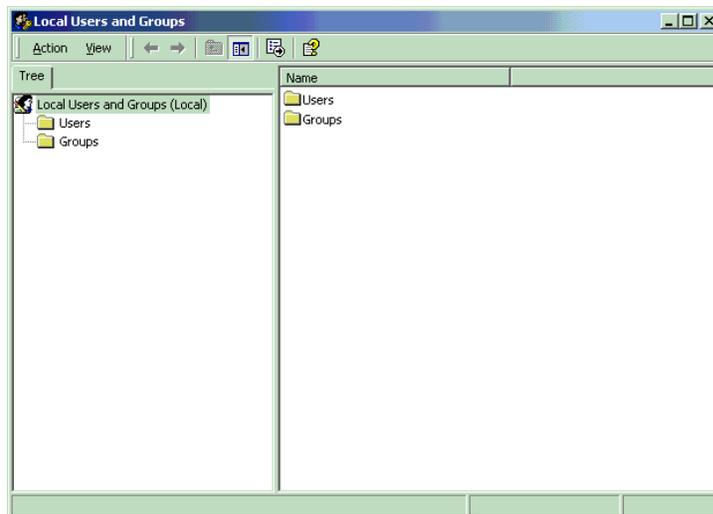

Figure 13. Local Users and Groups Window
3. Click the **Advanced** tab. Now click the **Advanced** button. The Local Users and Groups window opens (Figure 13).